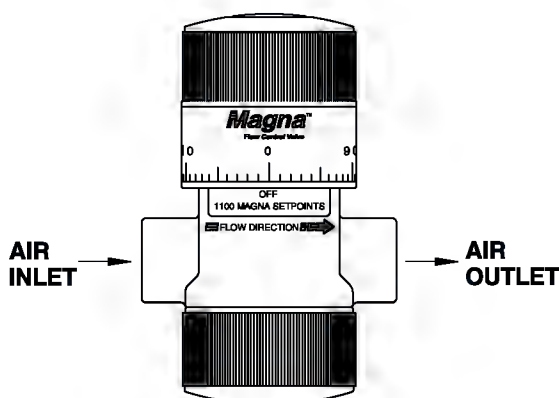

Fig. 1
2. Make sure incoming air connection is piped in accordance with the flow direction arrow on the valve body (See Fig. 1).